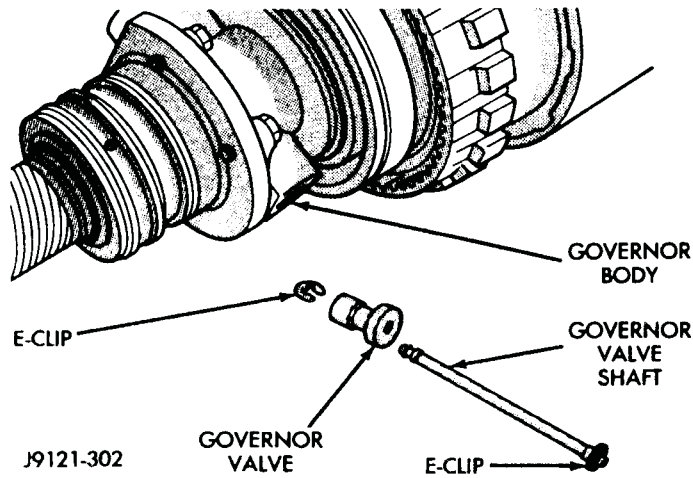

Fig. 16 Governor Valve And Shaft Removal/Installation
(1) Remove E-clip from one end of governor valve shaft and remove shaft and valve (Fig. 16).